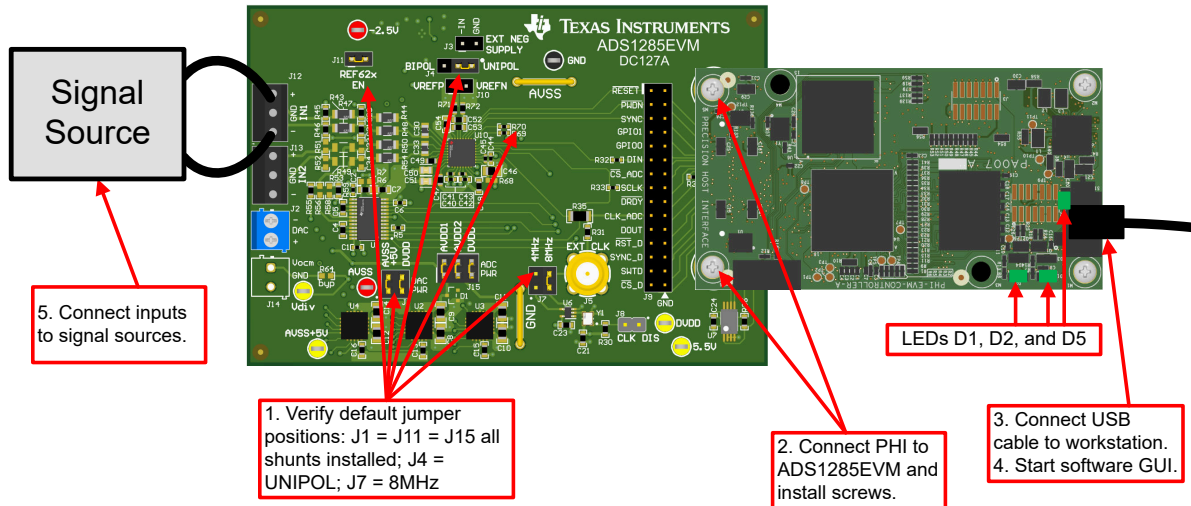

Figure 1-1. ADS1285EVM-PDK Hardware Setup and LED Indicators
2. Connect the ADS1285EVM to the PHI. Install the two screws as indicated in Figure 1-1.
- b. LEDs D1 and D2 on the PHI start blinking to indicate that the PHI is booted up and communicating with the PC. Figure 1-1 shows the resulting LED indicators.